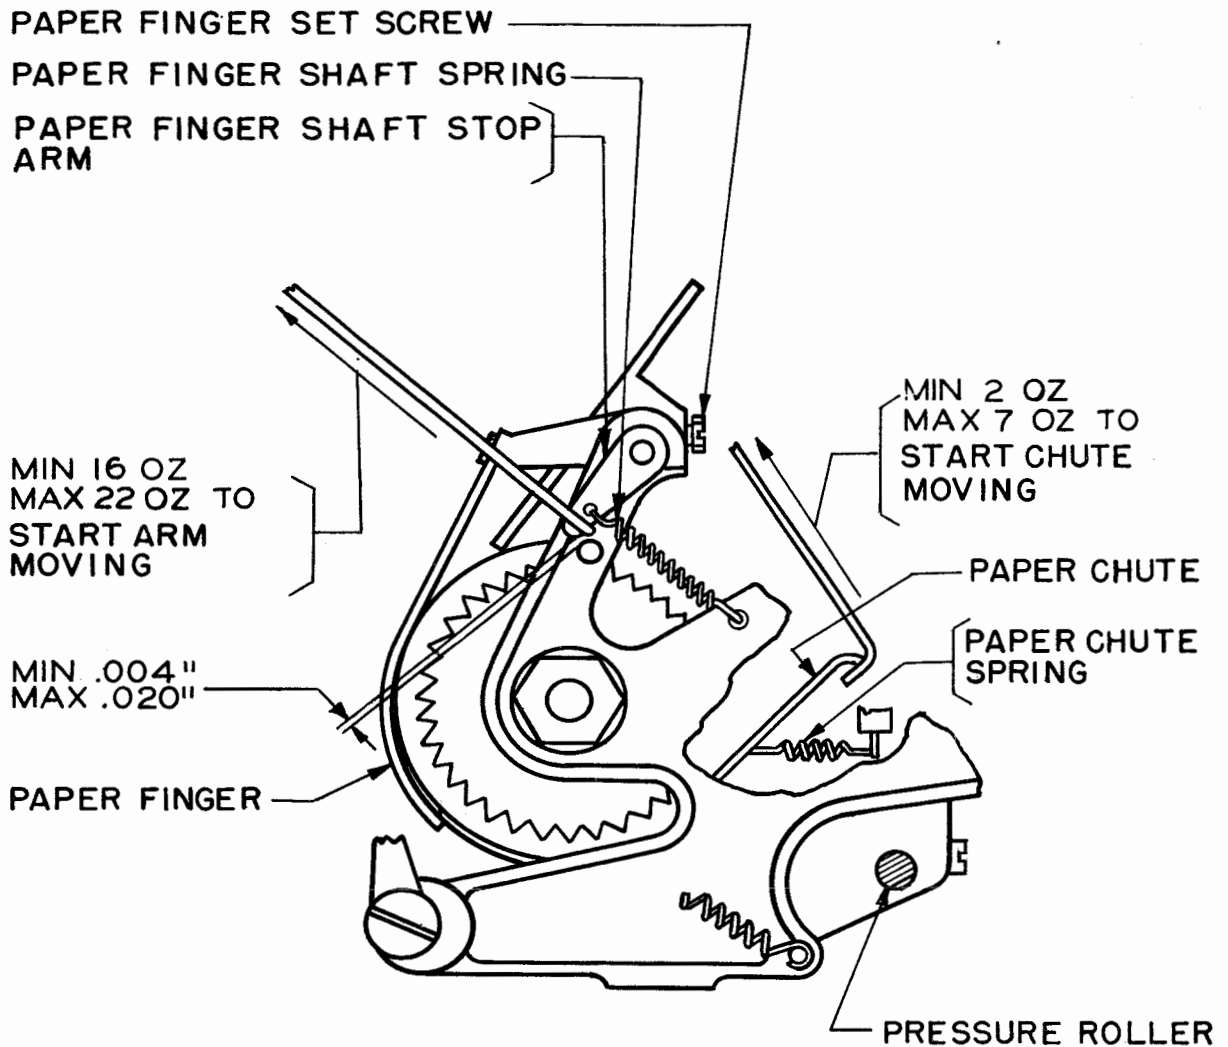

Figure 38
2.82 Paper-chute Spring should have a combined tension of minimum 2 ounces, maximum 7 ounces midway between the side frames when the pressure-roller release-shaft arm is in its operated (rear) position. See Figure 38.
2.83 Paper-finger-shaft Stop-arm should clear its stop post by minimum 0.004 inch, maximum 0.020 inch when the paper fingers are resting against the platen. See Figure 38.
2.84 Paper-finger-shaft Spring should have a tension of minimum 16 ounces, maximum 22 ounces. See Figure 38.